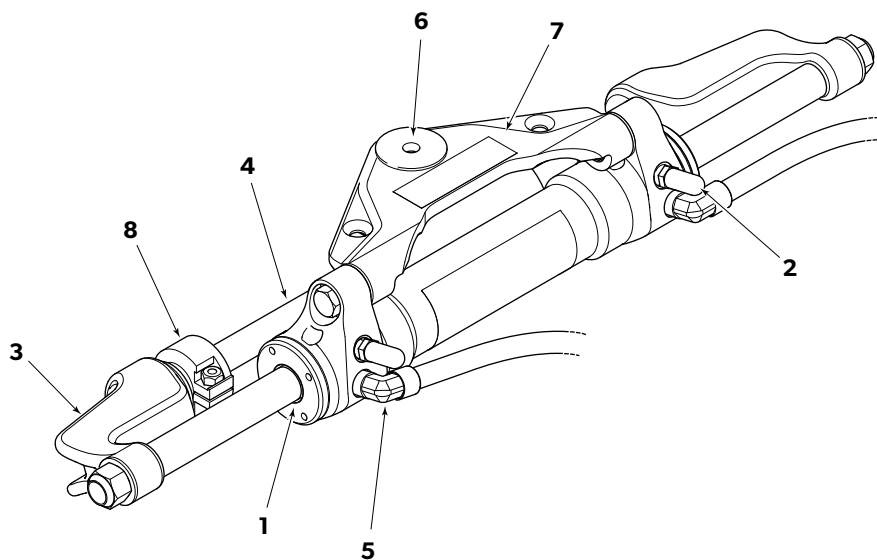

Figure 8-2.
- If you see fluid leaks coming from the elbow hose fittings (see figure 8-2, item 5). Remove elbow fitting completely, clean off threads of elbow fitting, then apply a "liquid" Teflon based pipe sealant to the threads going into the cylinder body only. Torque fitting to the appropriate value.